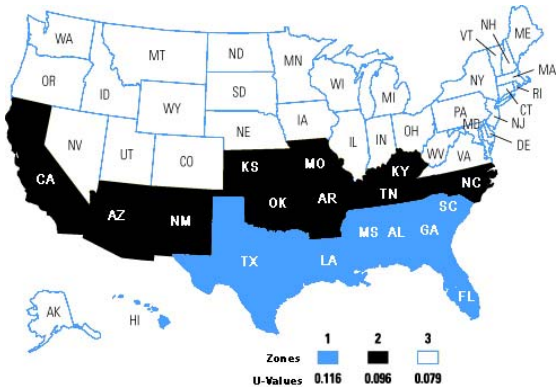

Figure 3. Thermal (UO) zone map
From **Figure 3. Thermal (UO) zone map**, identify the thermal (UO) zone for the home. Verify that the home conforms to the following rules.